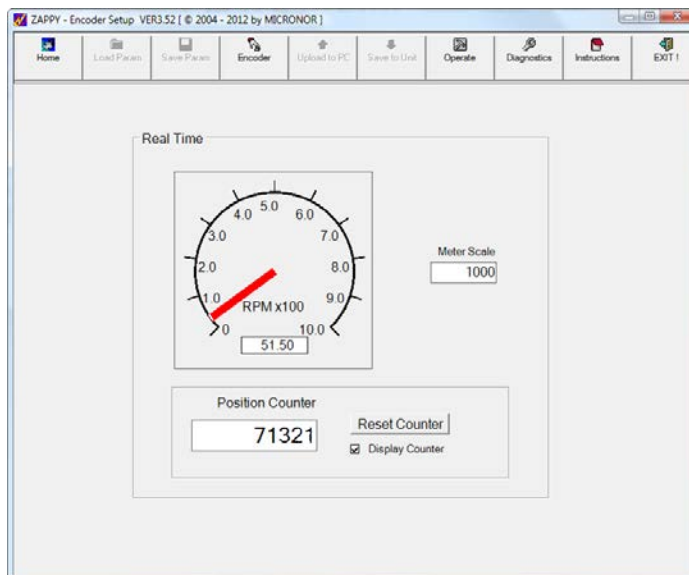

Figure 16. OPERATE Screen displays Real-time Encoder Operation.
- STEP 2.** An initial check would be to deliberately and semi-precisely turn the encoder shaft for one revolution and note if the correct number of counts is displayed. (HINT: A little adhesive tape flag formed around the encoder shaft would provide some degree of finger control.) An active [OPERATE] screen is also shown in Figure 16.